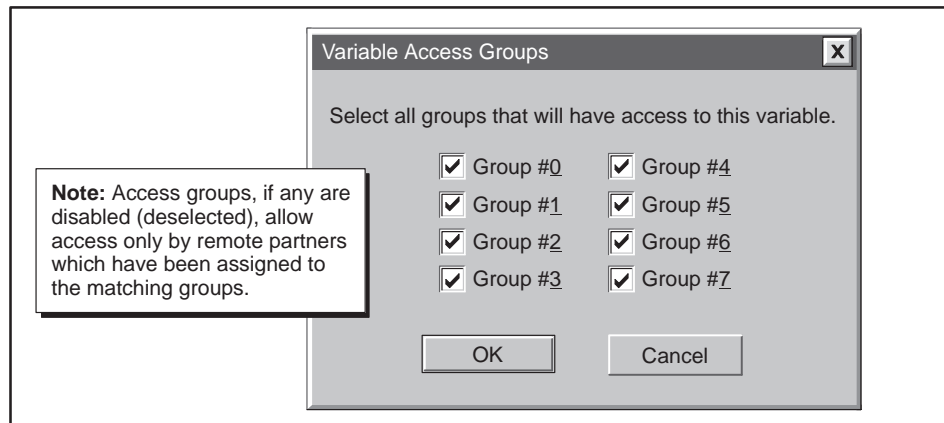

Figure 5-32 FMS Variable Access Groups Dialog Box
**Access Groups** When you click on the Access Groups field, a button appears in the field. Click on the button to view the Variable Access Groups dialog box (shown in Figure 5-32). Define which groups can have access to the variable by clicking on the group boxes, and then select OK. The dialog box disappears, and the selected groups are displayed in the Access Groups field. (Refer to Section 4.3 for more information about access groups.)